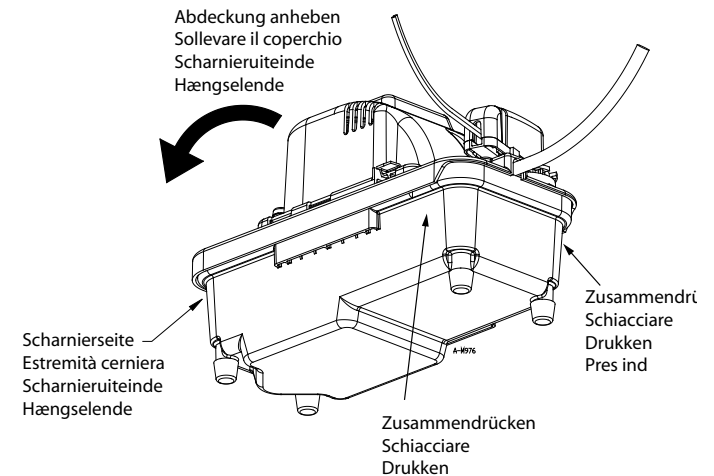

Fig. 7 (EN/FR/ES)
2. To access the tank, float, or intake screen for cleaning, lightly squeeze the tank walls to release the latch (Fig. 7), then grab and raise the motor cover. (The motor cover hinges on the opposite end of the tank.)